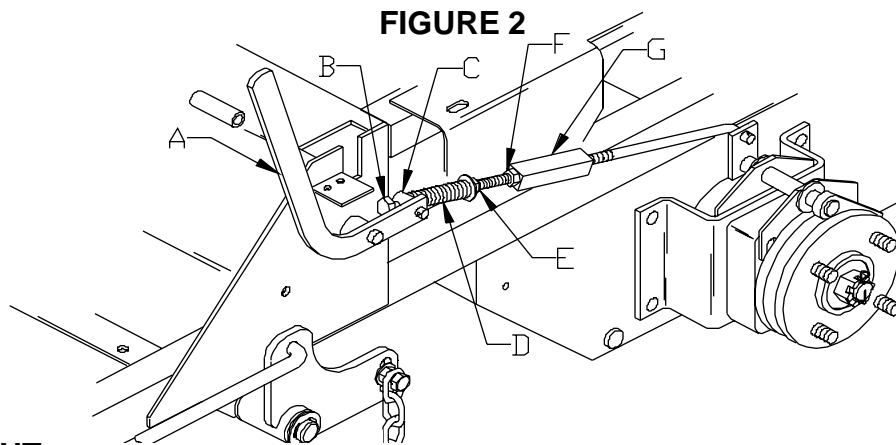

FIGURE 2
1. Stop engine and remove key. While the park brake lever "A" is in the on position. The distance between the swivel "C" and the bolt head "B" should be $\frac{3}{8}$ " to $\frac{1}{2}$ " approximately. (See Fig. 2)
3. While the park brake lever "A" is still in the on position, measure the length of the spring "D". Should measure 2". (See Fig. 2)